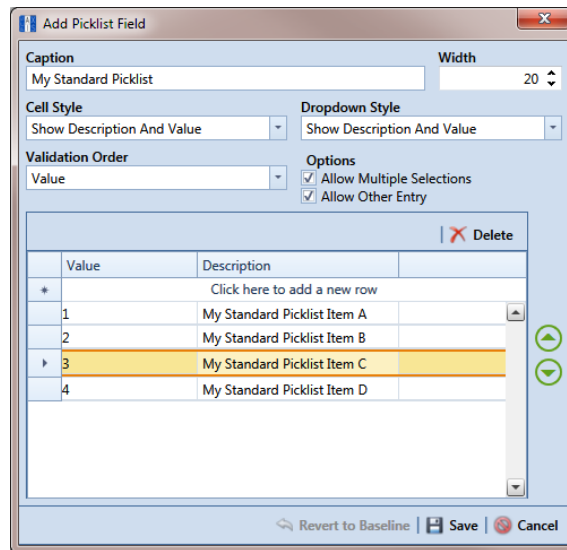

Figure 3-44. Add Picklist Field
- 6 When the *Add Picklist Field* dialog box opens, type a unique name for the UDF in the **Caption** field (Figure 3-44, page 89).
- a** Click the message **Click here to add new row** to add an empty row of fields for data entry (Figure 3-44, page 89).